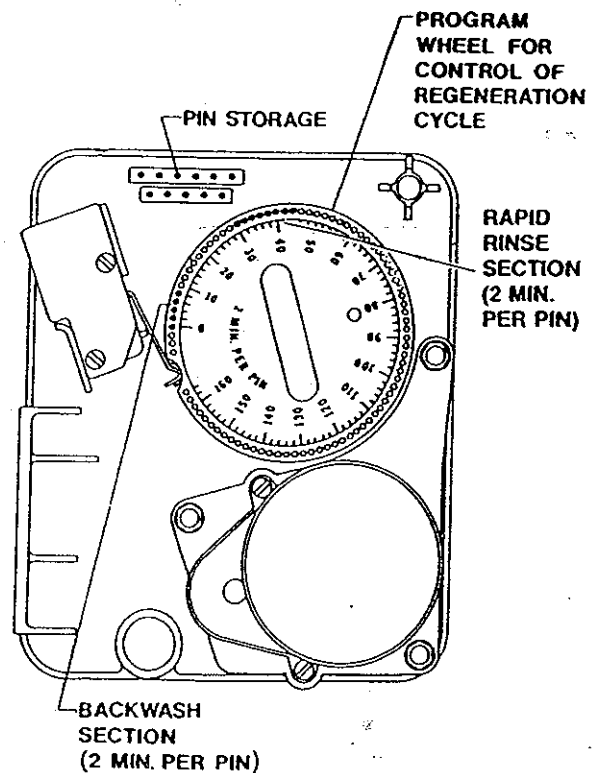

Figure 2
Each control valve position can be manually selected by rotating the **manual regeneration knob** clockwise until the first microswitch located on rear of timer door is aligned with each cycle position on the program wheel. (See Figure 2.)
1. Manually index **manual regeneration knob** to **BACKWASH** position and allow water to run to drain for 3 to 4 minutes. (See Figure 2.)
2. Manually index **manual regeneration knob** to **RAPID RINSE** position and allow water to run to drain for 3 to 4 minutes. (See Figure 2.)
3. Manually index **manual regeneration knob** to **SERVICE** position. (See Figure 2.)
- A. Manually index **manual regeneration knob** to **RAPID RINSE** position and allow water to run to drain until $KMNO_4$ is evident in the effluent (dark purple color). (See Figure 2.)
- B. Manually index **manual regeneration knob** to **SERVICE** position. (See Figure 2.)
- C. Let filter soak for one (1) hour.
- D. Manually index **manual regeneration knob** to **BACKWASH** position and allow filter to complete entire cycle (backwash and rapid rinse). (See Figure 2.)